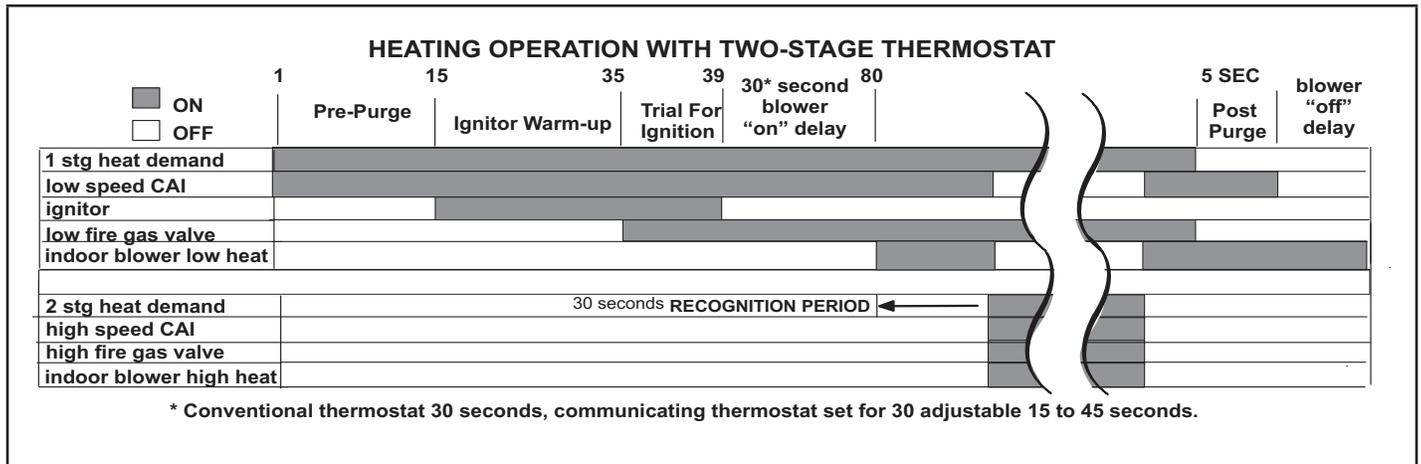

FIGURE 62
**Applications Using a Two-Stage Thermostat See figure 62 for ignition control sequence**